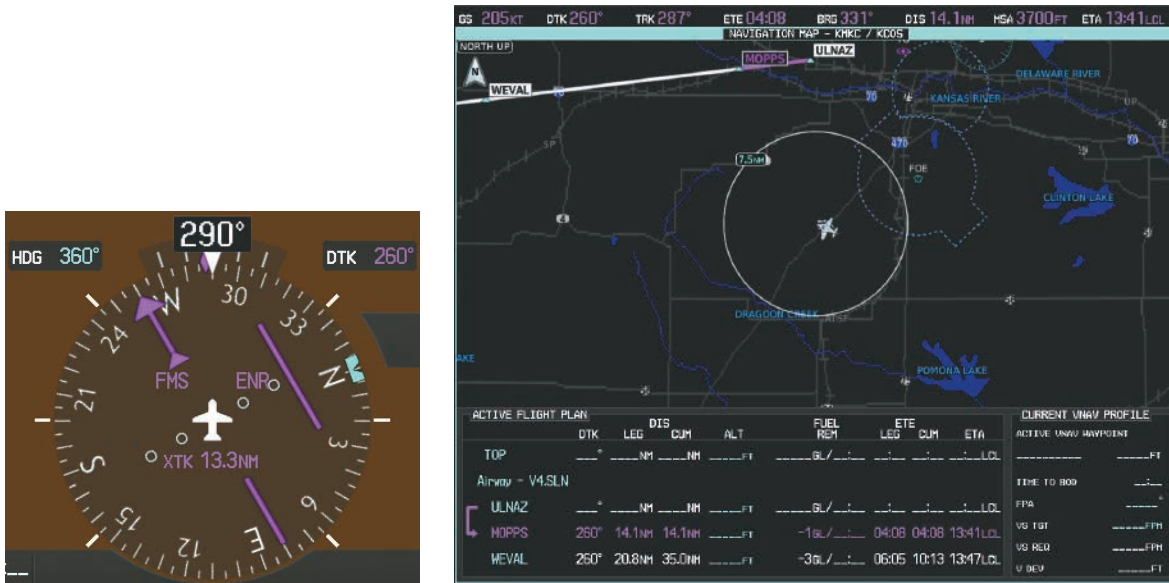

Figure 5-171 V4 Now Active Leg
- d) Note in Figure 5-171, the magenta arrow in the flight plan window and magenta line on the map indicating V4 is now the active flight plan leg. Note the phase of flight remained in Terminal (TERM) mode up to this point because a departure leg was active. Since a leg after the departure is now active, the current CDI flight phase is ENR (Enroute) and CDI scaling has changed to 2.0 nm.